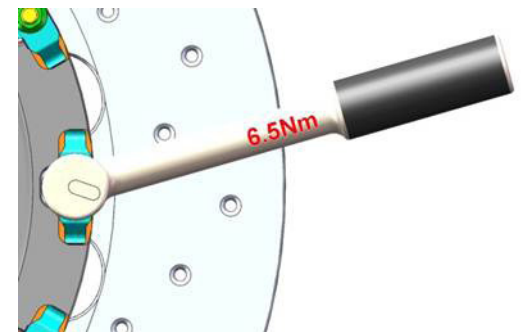

Fig 4. Tighten nut to 6.5Nm
Step 5: Hold the bolt head in position using an E10 6 lobe socket. With an 8mm A/F socket, pre-torque the nut to 6.5Nm (Fig 4.)